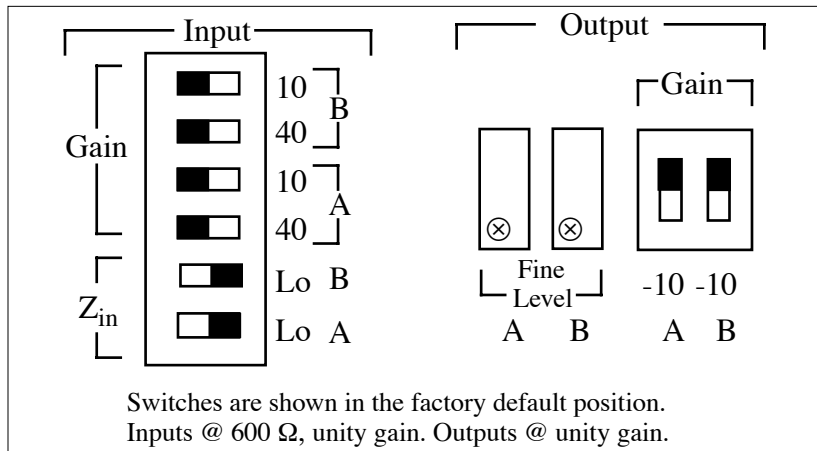

Figure 5. Audio Setup Controls
In Figure 5, **A** refers to the odd numbered channel and **B** refers to the even numbered channel of the pair.
4. With the rear of the unit facing you (connector end), move the slide switches shown in Figures 5 and 6 to match the settings in Table 2. The controls are arranged in pairs.